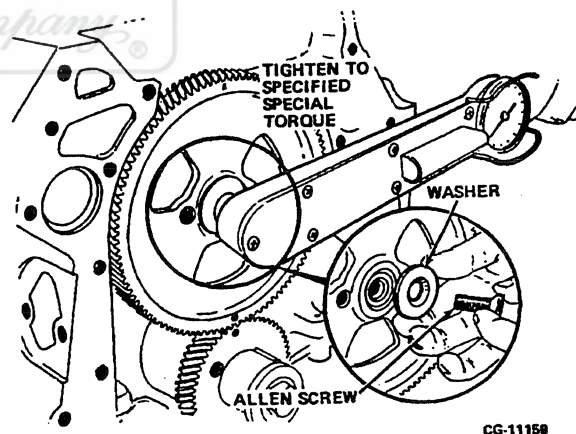

Figure 4.21. Camshaft Screw Installation
2. Install the camshaft with thrust flange, spacer, fuel pump cam and camshaft gear installed on shaft. Use Camshaft Remover and Installer Tool (ZTSE-1880-D), refer to Figure 4.12. Align timing marks with crankshaft gear marks, refer to Figure 4.21.
4. Install camshaft screw and lock washer (Figure 4.21) and tighten to specified special torque. (See Special Torques, page 2.)